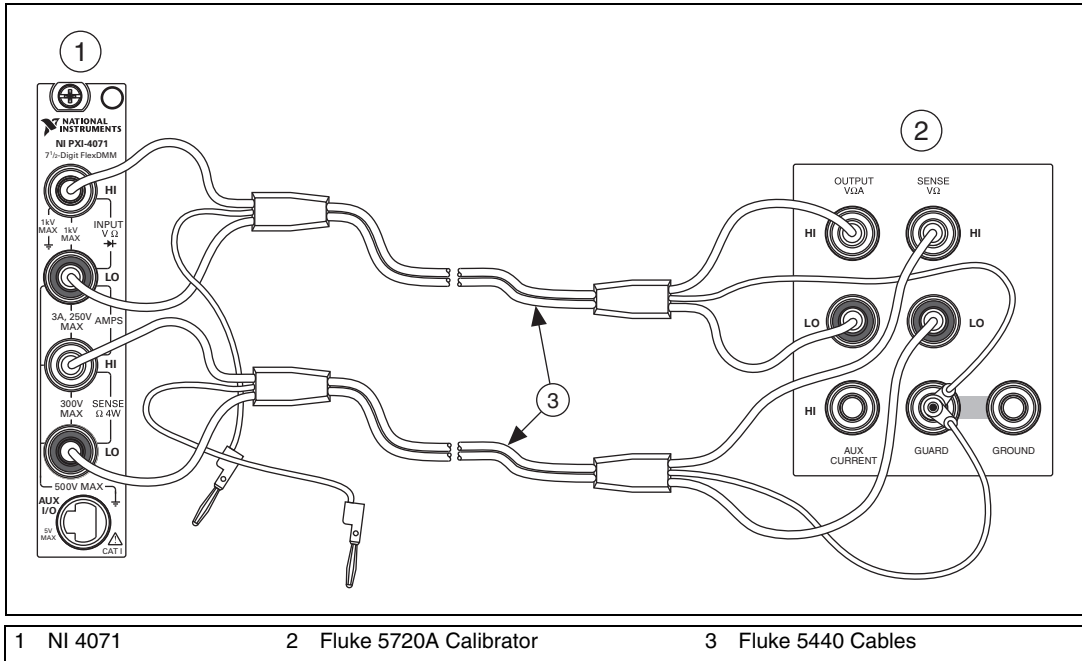

Figure 2. Cable Connections for 4-Wire Resistance
2. Connect the NI 4071 and the Fluke 5720A calibrator using the Fluke 5440 cables, as shown in Figure 2. Table 10 lists the cable connections.